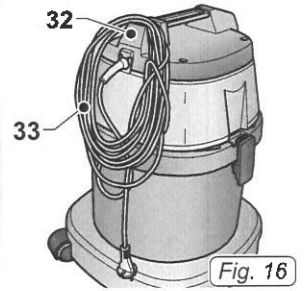

Fig. 16
- Wind up the cable (33 Fig. 16) and hook it onto its housing (32 Fig. 16).